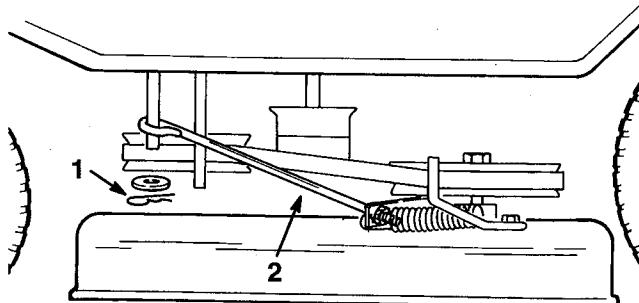

Figure 41
9. Install the blade control rod onto the blade control arm and secure it with the washer and hair pin cotter (Fig. 41).